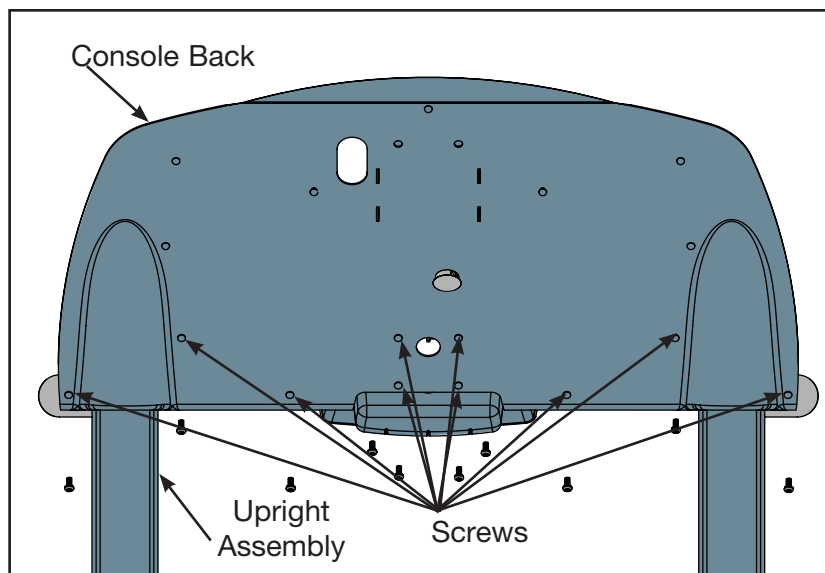

Figure 24
A. Using a Phillips head screwdriver remove the ten screws securing the console back from the upright assembly. See Figure 24.
- A. Using a Philips head screwdriver install the ten screws securing the console back from the upright assembly. See Figure 24.
- D. Using a Philips head screwdriver secure the console back to the upright assembly using ten screws. Fully tighten the two screws installed in step 7C. See Figure 24.